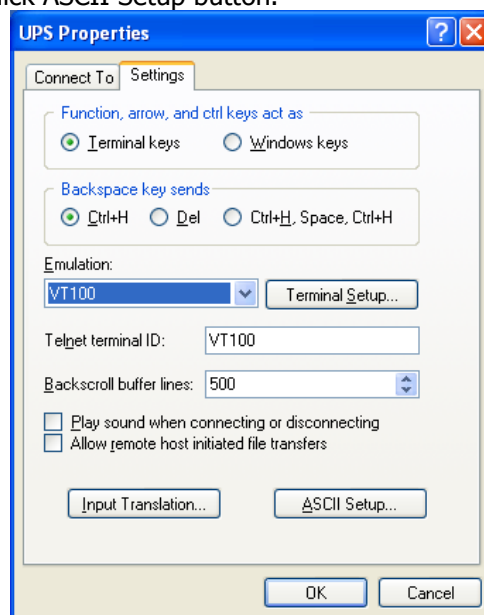

Figure 17: ASCII Properties Screen
Step 6: The [Name of Unit] Properties screen will pop up as shown in Figure 17. Click on the Settings tab. Select all columns as below figure and click ASCII Setup button.